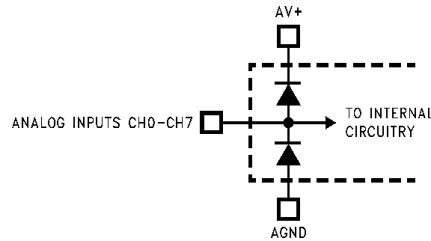

Figure 6.
- (1) Two on-chip diodes are tied to each analog input as shown below. They will forward-conduct for analog input voltages one diode drop below ground or one diode drop greater than  $V^+$  supply. Be careful during testing at low  $V^+$  levels (+4.5V), as high level analog inputs (+5V) can cause an input diode to conduct, especially at elevated temperatures, which will cause errors in the conversion result. The specification allows 50 mV forward bias of either diode; this means that as long as the analog  $V_{IN}$  does not exceed the supply voltage by more than 50 mV, the output code will be correct. Exceeding this range on an unselected channel will corrupt the reading of a selected channel. If  $AV^+$  and  $DV^+$  are minimum ( $4.5 V_{DC}$ ) and full scale must be  $\leq 4.55 V_{DC}$ . See Figure 6
- (2) No connection exists between  $AV^+$  and  $DV^+$  on the chip. To ensure accuracy, it is required that the  $AV^+$  and  $DV^+$  be connected together to a power supply with separate bypass filter at each  $V^+$  pin.
- (3) One LSB is referenced to 10 bits of resolution.
- (4) All the timing specifications are tested at the TTL logic levels,  $V_{IL} = 0.8V$  for a falling edge and  $V_{IH} = 2.0V$  for a rising. TRI-STATE voltage level is forced to 1.4V.
- (5) Typicals are at  $T_J = T_A = 25^\circ C$  and represent most likely parametric norm.
- (6) Tested limits are ensured to AOQL (Average Outgoing Quality Level).
- (7) Total unadjusted error includes offset, full-scale, linearity, multiplexer, and hold step errors.
- (8) The DC common-mode error is measured in the differential multiplexer mode with the assigned positive and negative input channels shorted together.